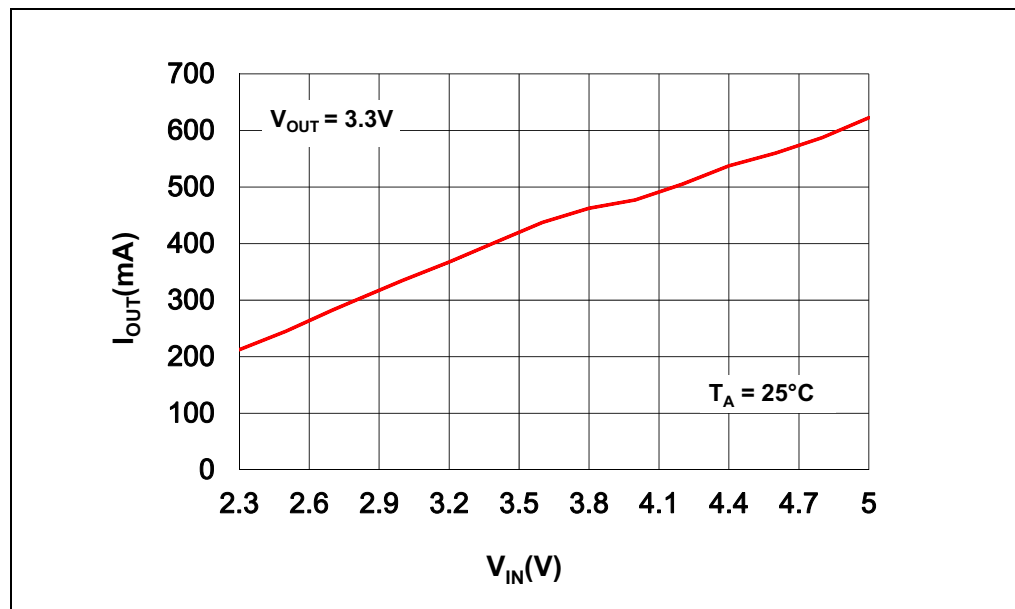

FIGURE 2-1: MCP1663 SEPIC - 3.3V V_{OUT} Maximum I_{OUT} vs. V_{IN} Using a Power Supply.
The SEPIC topology is used to provide a positive regulated 3.3V output voltage from an input voltage that varies from a minimum of 2.3V to a maximum of 5V. Refer to Figure 2-1 for the maximum output current that can be obtained for different input voltages.
- Output Current: 300 mA @ 3.3V Output, 2.8V Input; refer to Figure 2-1
Soldered pads are available in order to allow connecting a load. The peak current limit of the MCP1663 will provide a safe maximum current value. The maximum output current for the converter will vary with the input voltage, as shown in Figure 2-1.